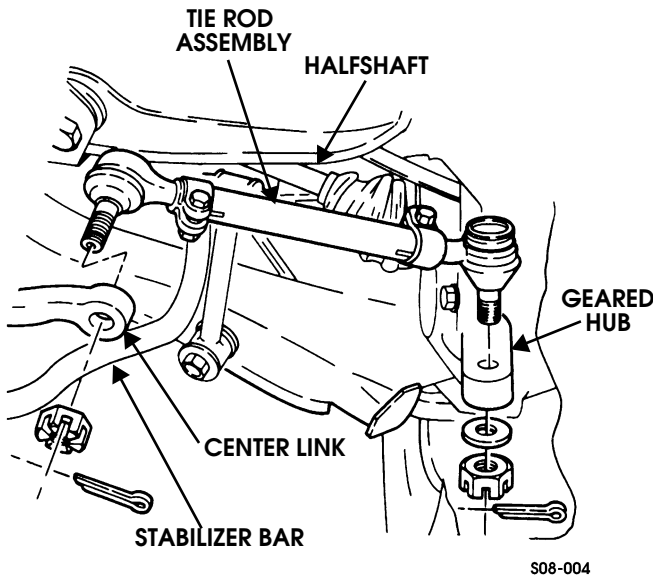

Figure 8-6: Tie Rod Removal
2. Remove the cotter pins and slotted nuts from the center link end and the geared hub end of the tie rod (Figure 8-6).